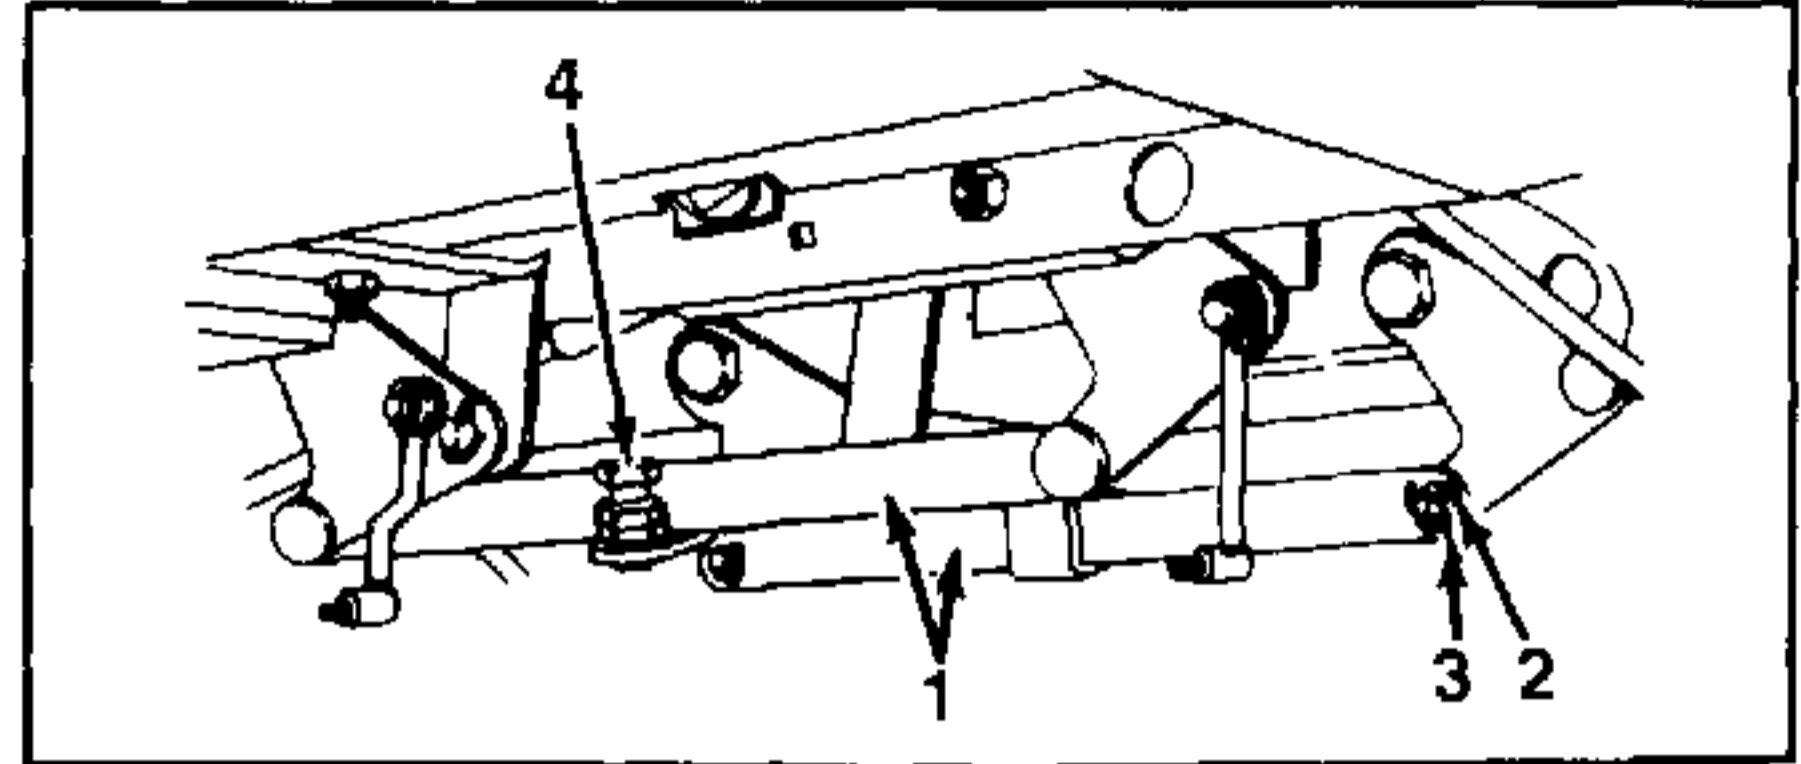

FIGURE 4.
4. Refer to figure 4. With cotter pins and flat washers left from removal of connecting links, assemble lift stop assemblies in place of connecting links.